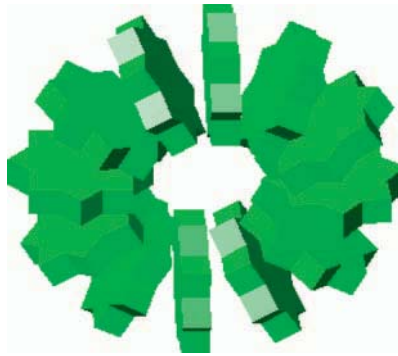

Fig. 14.13 Second example – a 3D Polar Array
Second example – a Polar Array (Fig. 14.13)
4. Shade using the **Home/View/Conceptual** visual style (Fig. 14.13).